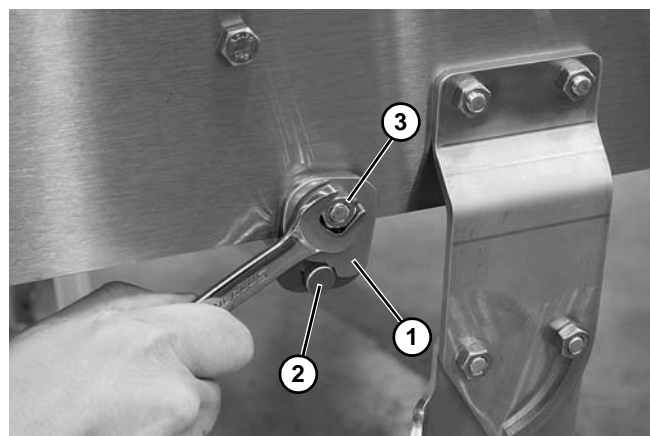

Figure 23
6. Rotate return clip (**Figure 23, item 1**) down against shaft (**Figure 23, item 2**) on both sides of conveyor. Tighten nuts (**Figure 23, item 3**).